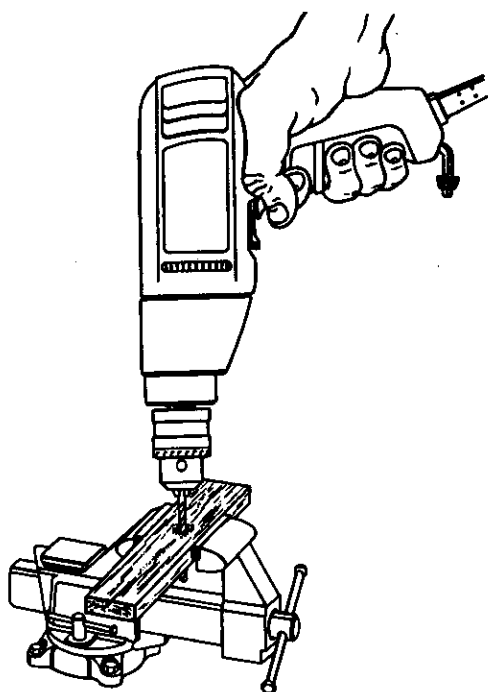

Fig. 8
See Figure 8.
- Move the drill bit into the workpiece applying only enough pressure to keep the drill bit cutting. Do not force your drill or apply side pressure to elongate a hole. Let your drill and drill bit do the work. See Figure 8.